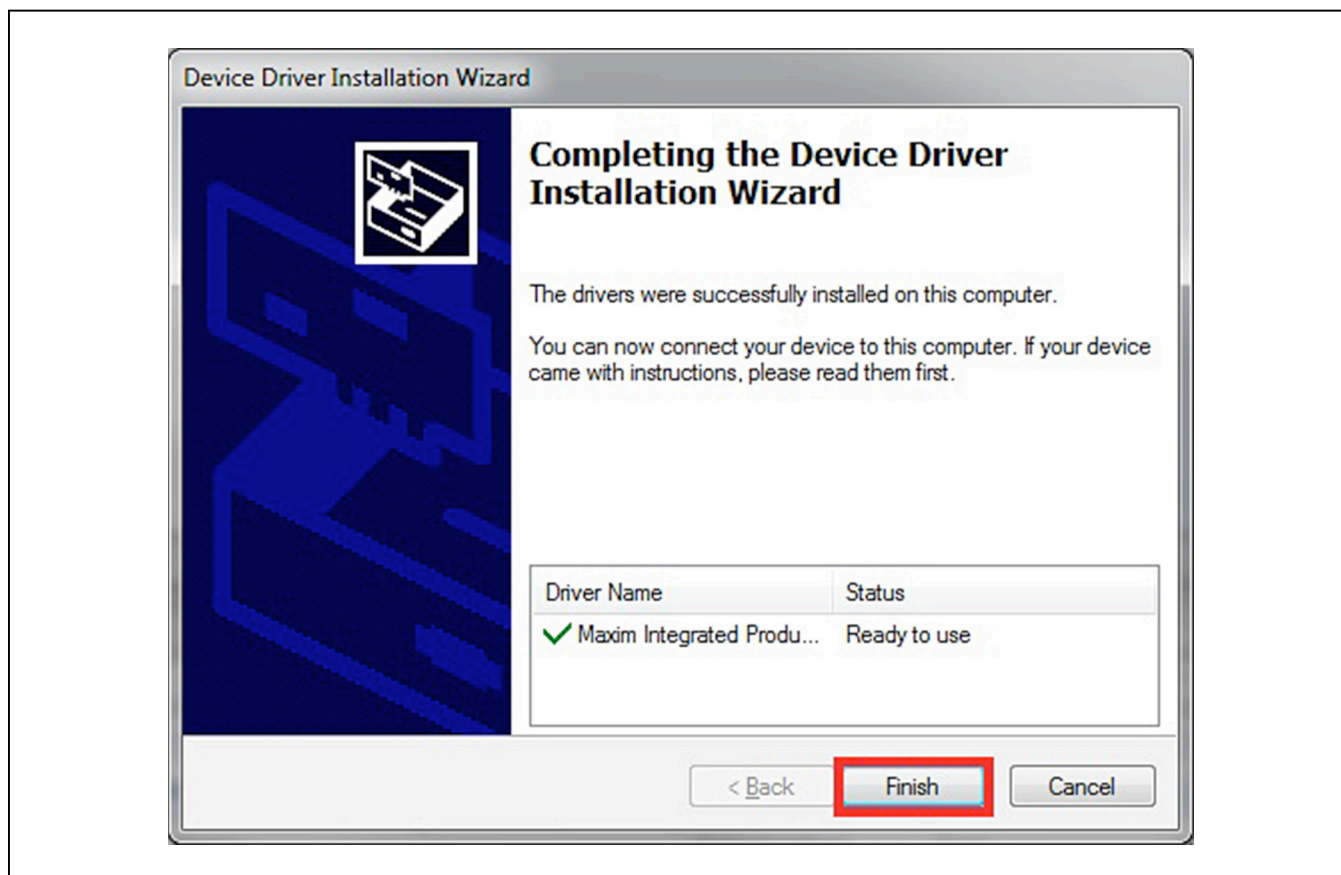

Figure 7. Device Driver Installation Finished
- 9) Click on Finish to close the final window and confirm the driver is installed correctly (Figure 7).